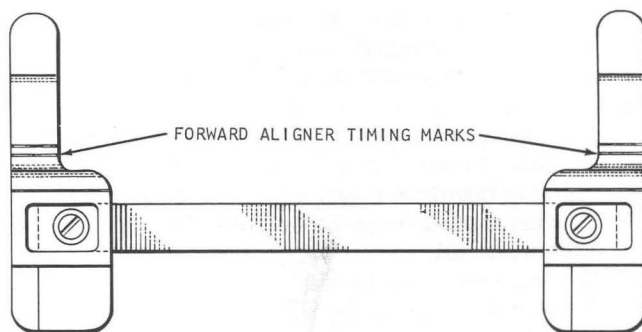

Figure 4-7. Gage 608183 Timing Mark
4. Continue turning the machine and check to see that a card finishes forward aligning to within .005" of the "forward aligner timing marks" on the gage at 351° (Figure 4-7). This determines that the forward aligner is timed correctly.
1. Trip clutch at 300° and continue turning machine to 351° . Adjust forward aligners so that the trailing edge of the card is against each aligning surface of the forward aligners and leading edge of the card is within .005" of the forward aligner timing marks on the gage (Figure 4-7) at 351° . To adjust the forward aligners: